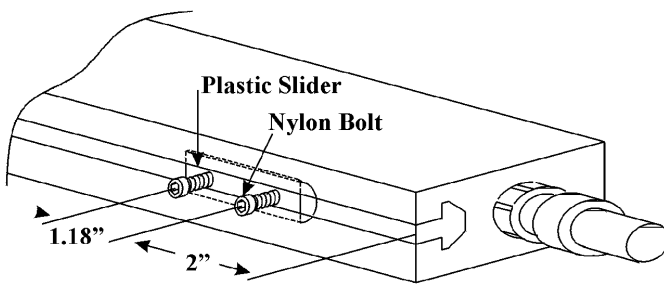

Figure 1. R50 Blue Bar Overview and Dimensional Drawing
Dimensions	5/8"W x 1 1/4"H x Overall Length (OL) (see Figure 1 )